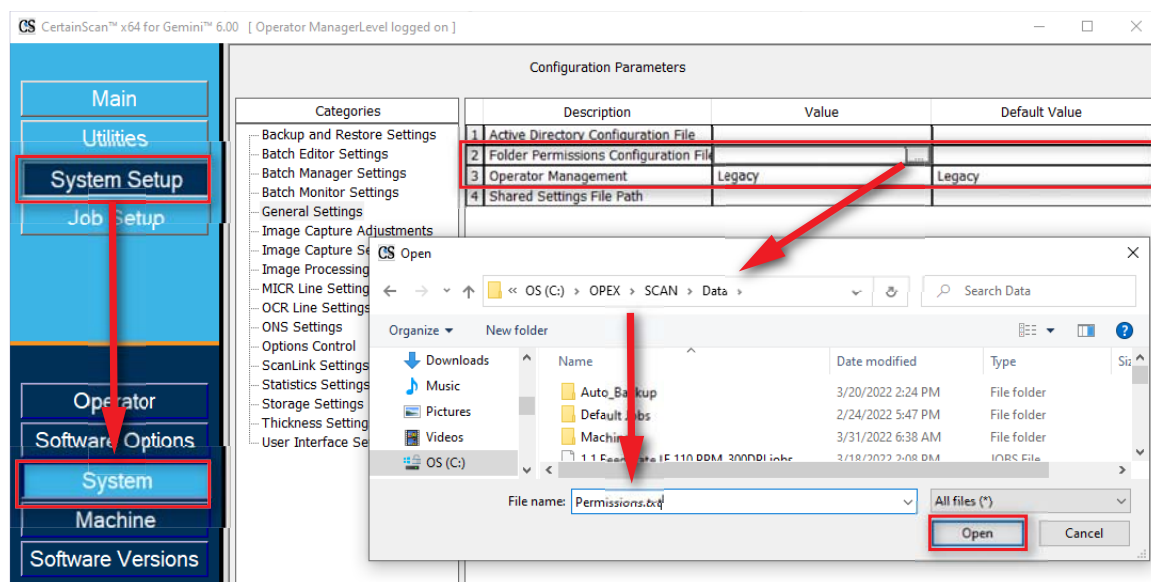

Figure 3-33: Create Permissions File
- Navigate to **System Setup > System > General Settings > Folder Permissions Configuration File** (Figure 3-33).